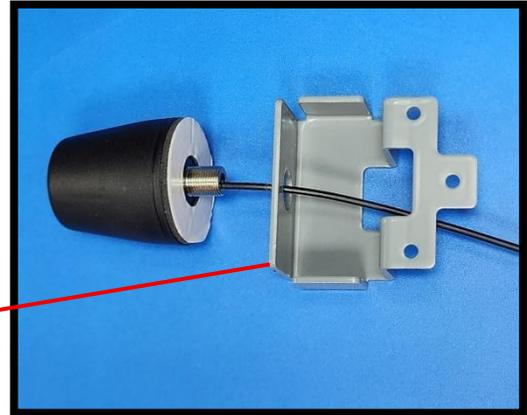

Figure 6: Align Antenna and Secure Tape
6. Insert the new antenna cable through the slot on the metal bracket, making sure that the cutout of the tape lines up with the bracket (Figure 6).